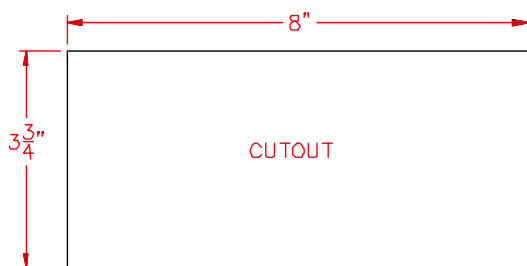

FIGURE 1
1. Make cutout according to figure 1, allowing 4" clearance behind panel.